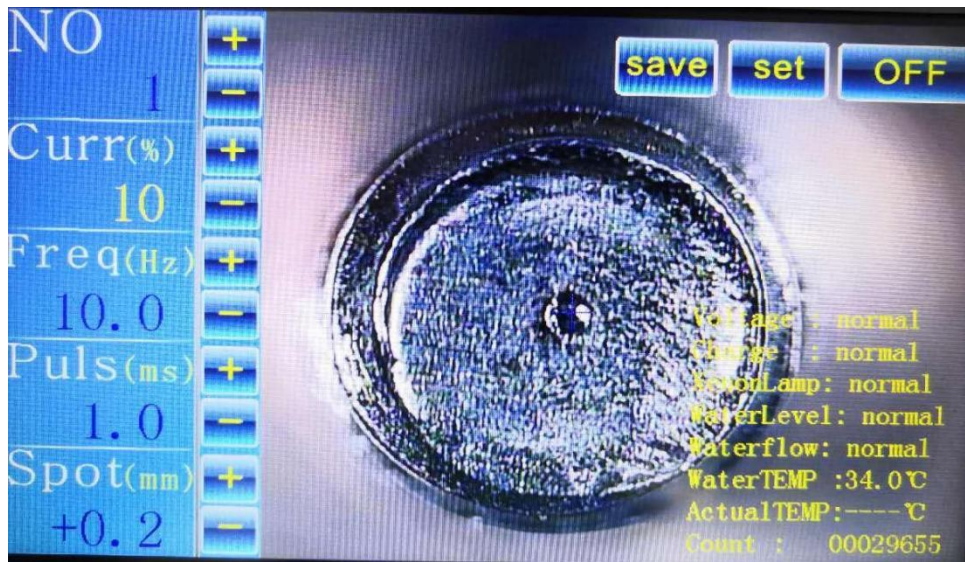
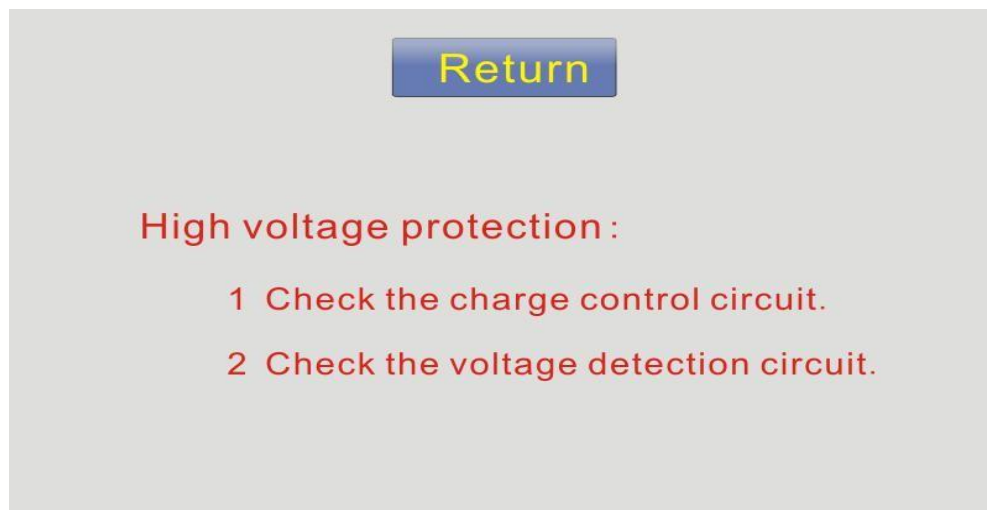

Fig.06
Fig.07
3. After starting 18s, Power system will enter the standby interface (see Fig. 06) , if there is interface(Figure 07). check the discharge box drive and testing wire or xenon lamp is connected reliably or not. The upper right corner shows power off button , reminds the device state , start finished , and enter the using state. While preparing for the turning off .
Set up the block light time of the high-speed LC light valve which is synchronizing with the laser. The laser come out, the software default that laser LC light valve opening 10ms early; block light delay and single -point laser blocking time , such as : Single-point laser pulse is 8ms in the figure 06, and is 40ms in the block light figure 12; Close the light valve when no laser.
Ready to shut down, touch to the interface status see Fig.15 (Fig.06).